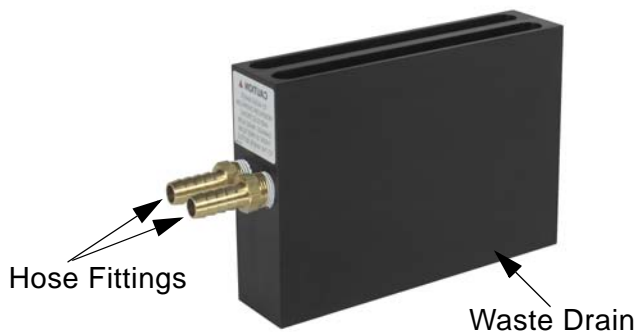

Figure B-7. Waste Drain
1. Locate and remove the waste drain (P/N 071362) from its shipping box in the Ship Kit (standard Dionex AutoTrace 280, P/N 071383; Dionex AutoTrace 280 PFAS, P/N 22136-62005) (see Figure B-7).